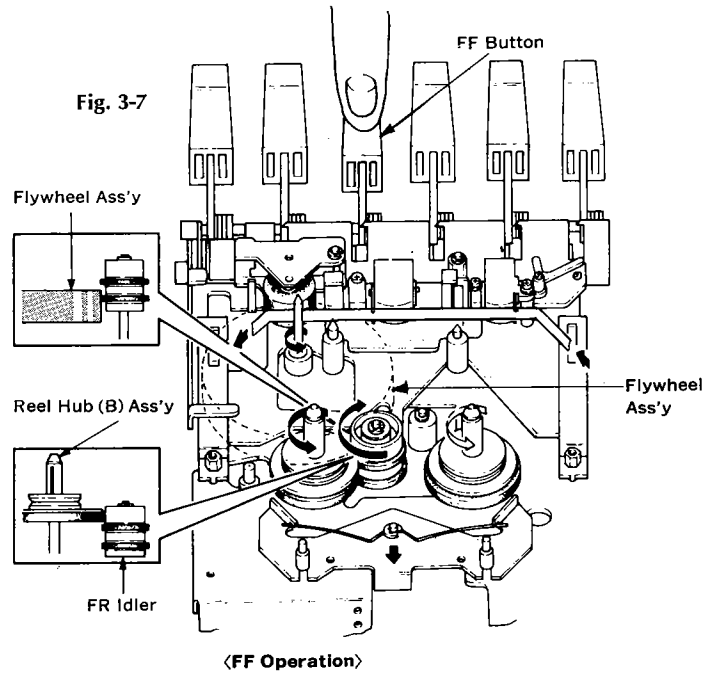

Fig. 3-7
3) Fast Forward & Rewind Operation (See Fig. 3-7, 3-8, 3-9, 3-10 & 3-11)